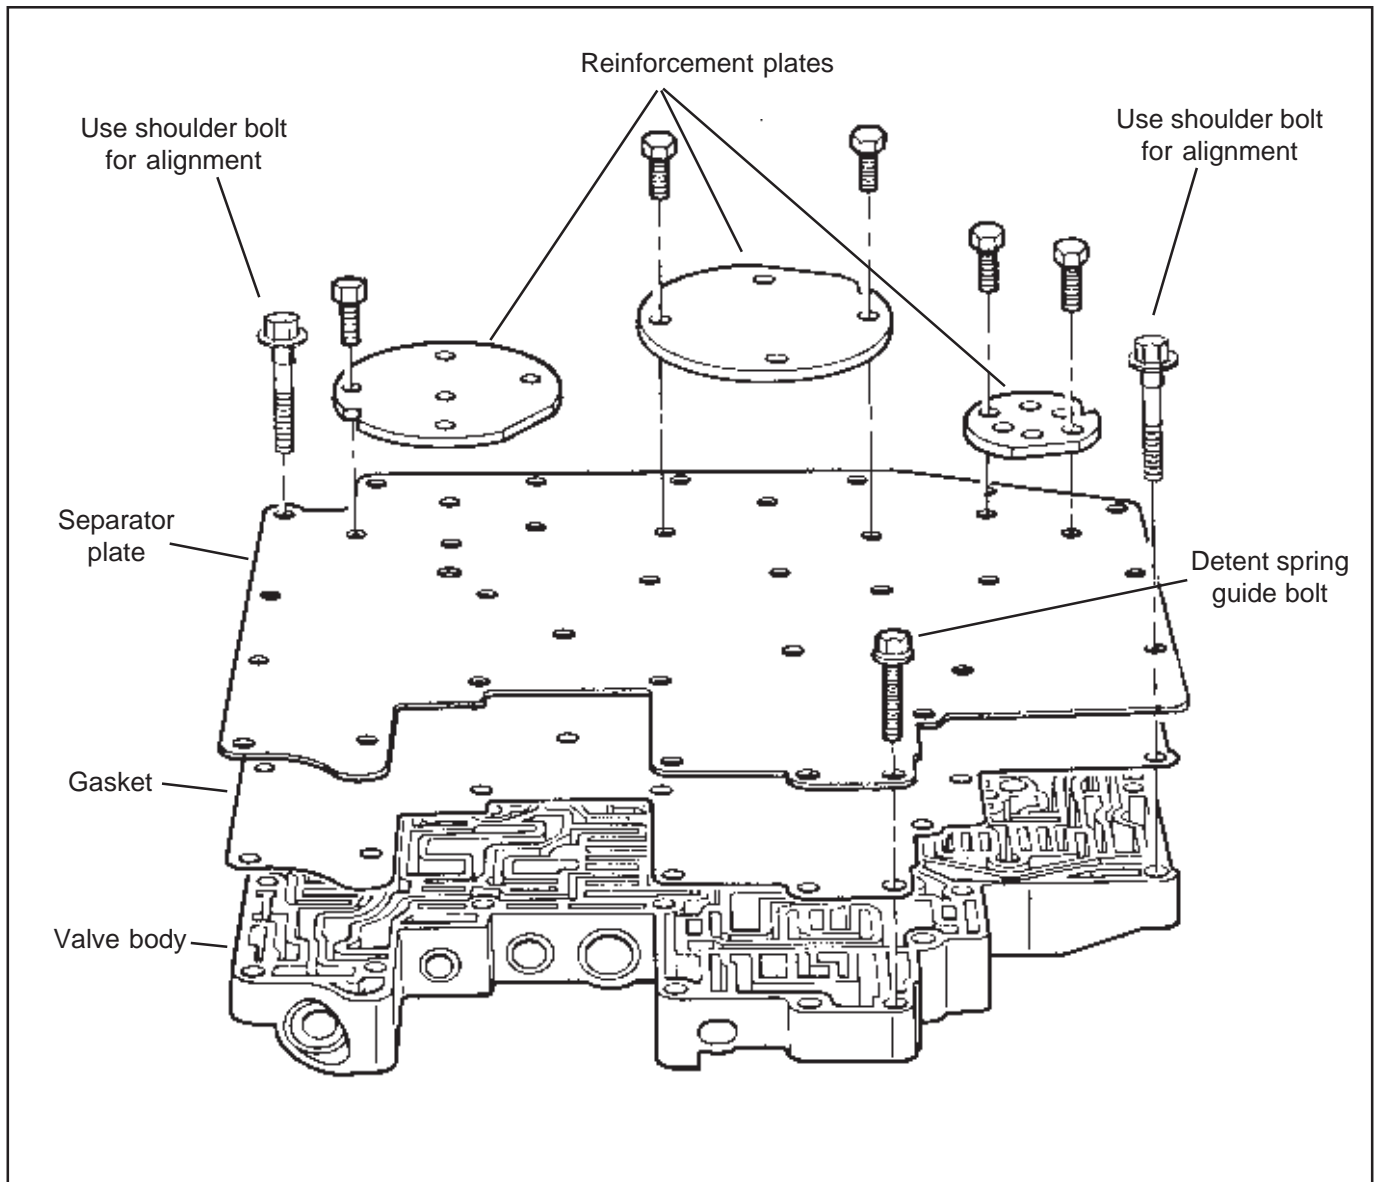
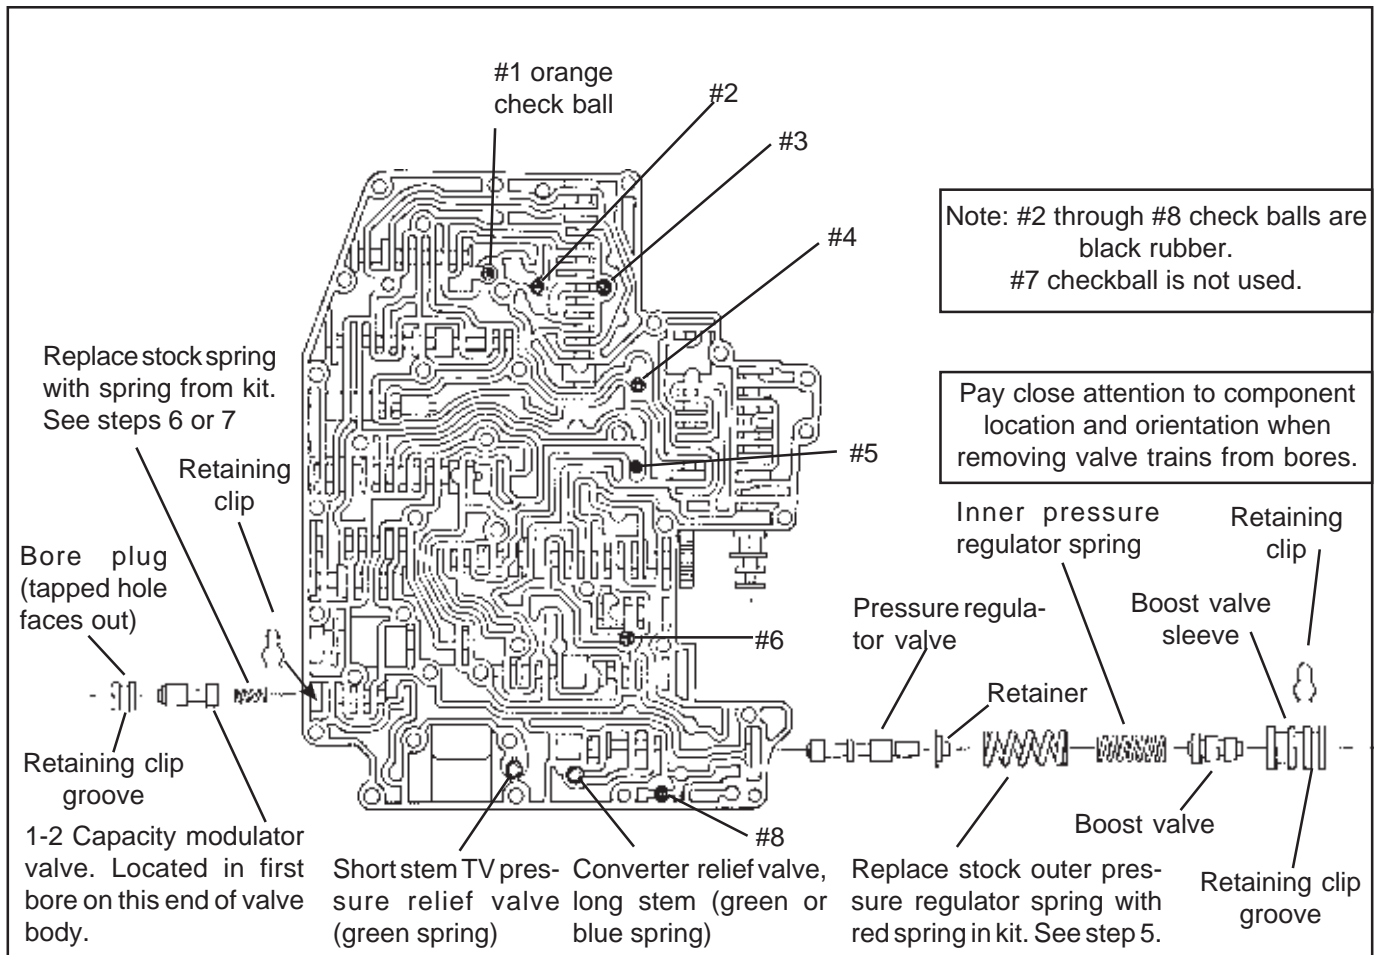

Figure 3
Figure 4
STEP 4. Remove 12 bolts holding separator plate to valve body (See Fig 3). Remove (3) reinforcement plates and separator plate, (1) large (orange) and (6) small (black) check balls, and (2) relief valves with springs (See Fig. 4). **NOTE:** Early 1980 valve bodies may have (7) black check balls. Carefully remove any remaining gasket material from reinforcement plates and valve body surfaces. Make sure none of the gasket debris remains in the valve body channels to contami-
STEP 5. Heavy Duty and Street; Pressure regulator. Remove the retaining clip at the end of the pressure regulator bore (See Fig. 4) Use a
STEP 6. Heavy Duty Only; 1-2 Capacity Modulator. Remove the retaining clip at the end of the 1-2 Capacity Modulator bore (See Fig. 4). Remove the bore plug, 1-2 Capacity Modulator valve and spring from bore. On later model valve bodies use the M4x40 (4mm metric screw supplied in kit) in tapped hole to assist removing bore plug. Early valve bodies do not have a hole in the bore plug so you will have to pry the plug out with a small screw driver. Replace the stock spring with the **YELLOW** spring
STEP 7. Street Only; 1-2 Capacity Modulator. Remove the retaining clip at the end of the 1-2 Capacity Modulator bore (See Fig. 4). Remove the bore plug, 1-2 Capacity Modulator valve and spring from bore. On later model valve bodies screw the M4x10 (4mm metric screw supplied in kit) in tapped hole to assist removing bore plug. Early valve bodies do not have a hole in the bore plug so you will have to pry the plug out with a small flat screw driver. Replace the stock spring with the **GREEN** spring supplied in kit. Reassemble spring, valve and bore plug (tapped hole facing out) and install retaining clip.
STEP 9. Check ball placement (See Fig. 4) Place check balls in the valve body in the positions shown. Use a dab of grease or petroleum jelly to
STEP 10. Reinstall original converter and TV pressure relief springs and valves (See Fig. 4). Pay close attention to the spring color and relief valve stem length. The long stem converter relief valve can have either a green or blue spring.
STEP 12. Position separator plate gasket then separator plate on valve body. Align gasket and separator plate holes with those in valve body. Insert (2) long (1.56") valve body **shoulder** bolts through separator plate and valve body as illustrated in **Figure 3**. The **shoulder** bolts are required to maintain gasket and plate alignment during assembly.
The shoulder bolts must be installed in the holes indicated for proper alignment. Install (3) reinforcing plates with (11) short bolts tightening the bolts finger tight. Install (1) M6x30mm (1.16") detent spring guide bolt. (See Fig. 3.)